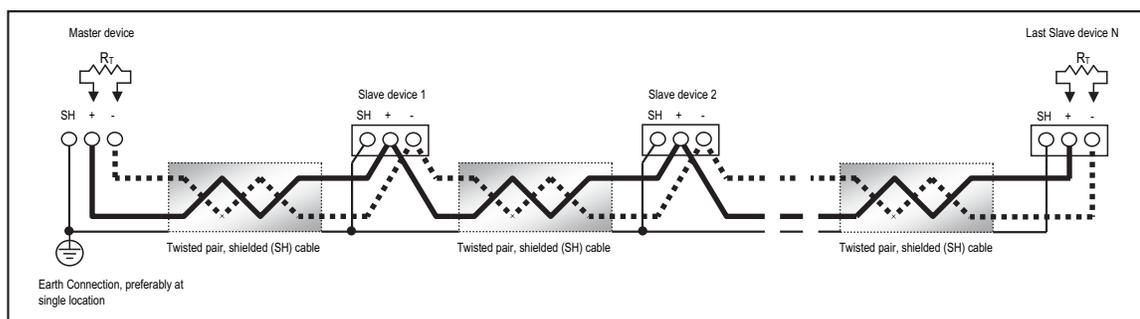

Figure 5-5: RS485 Daisy Chain Connection
- Connect shield to RS485 Master and individual devices as shown in Figure 5.5. You may also connect the shield to earth-ground at one point.
Figure 5.5 shows a representation of an RS485 Daisy Chain connection..